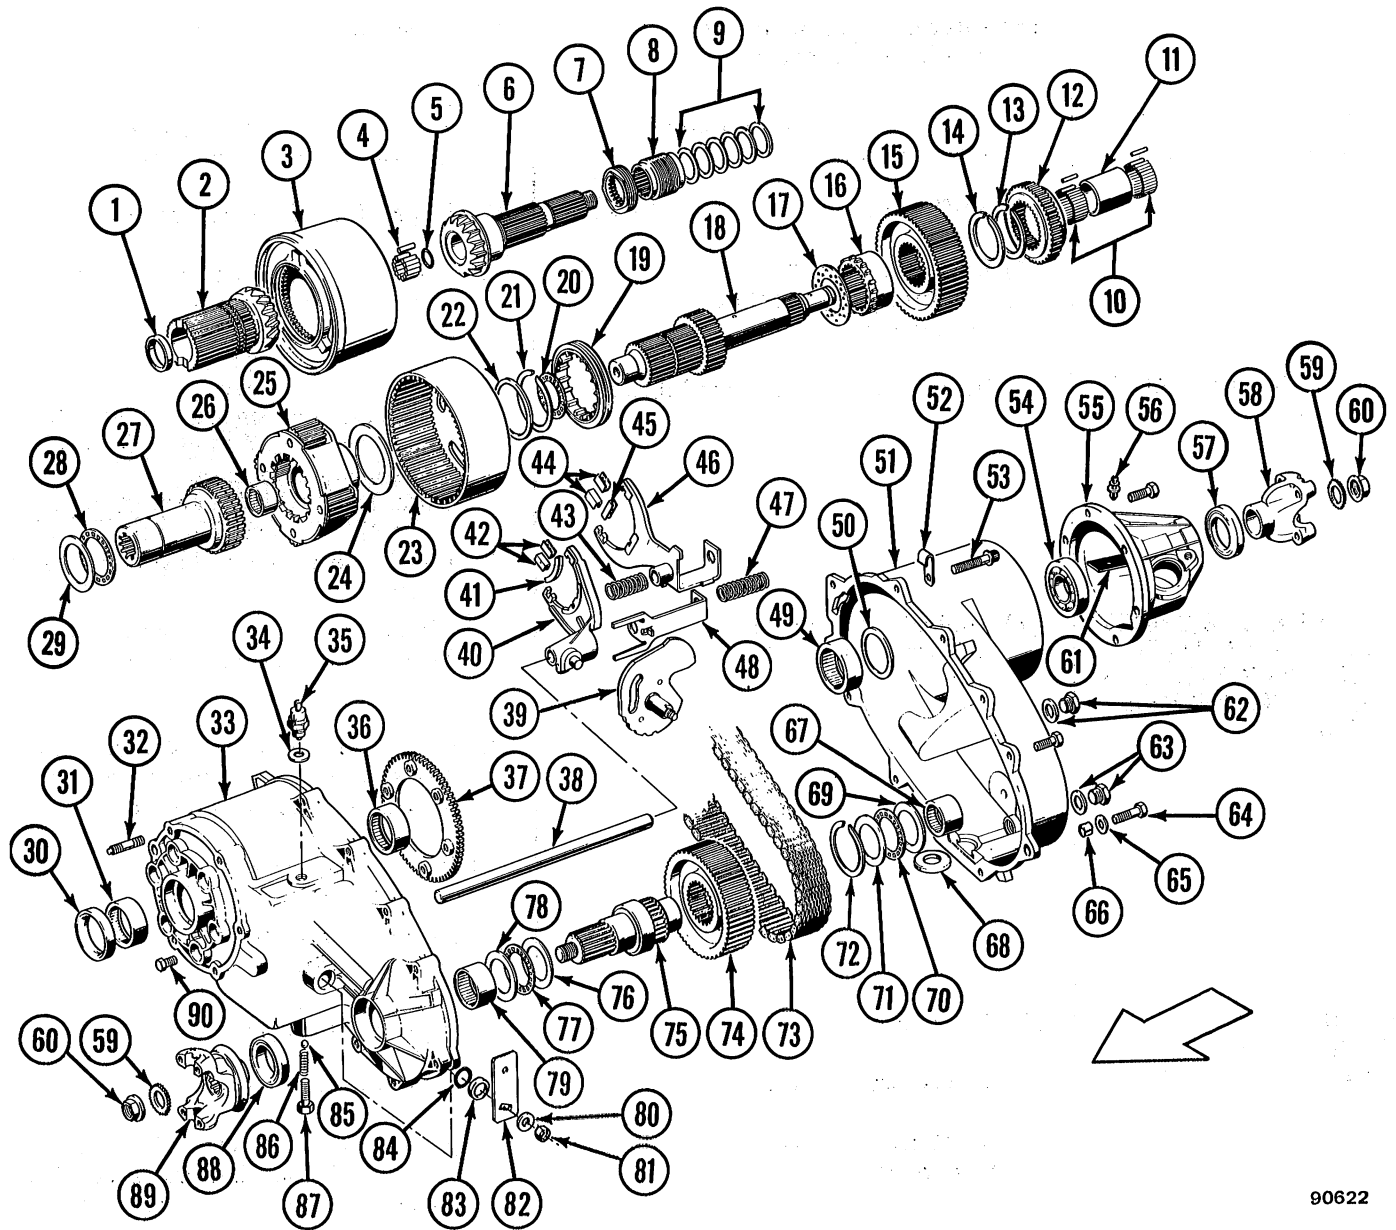

Fig. 2D-44 Model 219 Quadra-Trac Transfer Case
- (29) Remove annulus gear retaining snap ring and thrust washer (fig. 2D-58).
- (30) Remove annulus gear and range fork as assembly (fig. 2D-59). Separate components for cleaning and inspection.
- (31) Remove planetary thrust washer from planetary assembly hub (fig. 2D-60).
- (32) Remove planetary assembly (fig. 2D-61). Grasp planetary hub and lift assembly upward to remove it.
- (33) Remove mainshaft thrust bearing from input gear (fig. 2D-61).
- (34) Remove input gear and remove input gear thrust bearing and race (fig. 2D-62).
- (35) Remove range sector detent ball and spring retaining bolt and remove detent ball and spring (fig. 2D-10).
- (36) Remove range sector and operating lever attaching nut and lockwasher and remove lever.
- (37) Remove range sector.
- (38) Remove range sector shaft O-ring and retainer (fig. 2D-44).
- (39) Remove input gear oil seal from front case using screwdriver or punch.